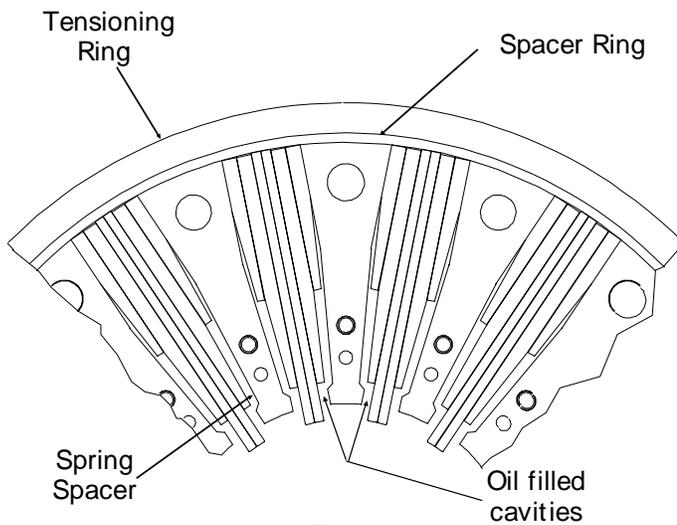

Figure 3
1.2.3.1 The tension ring subassembly(10), consisting of the spring packs, spring spacers, side plate, spacer ring and tensioning ring, is bolted to the mounting flange (1). The tips of the spring packs' longest leaves are retained in the spline grooves of the splined hub (24). Between the spring packs, spring spacers, and splined hub, cavities exist which are filled with oil See Figure 3.